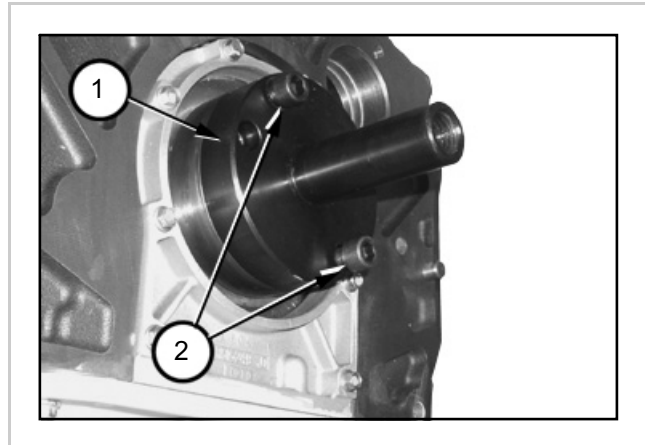

Fig. 18 (32358)
3. See Figure 18. Install the pilot (1) from the rear oil seal and wear sleeve installer tool set (P/N 145003) on the end of the crankshaft.
4. Use two 38 mm (1.5 in) socket-head screws (2). Tighten both screws until they touch the base of the pilot, then back them off approximately one-half turn.